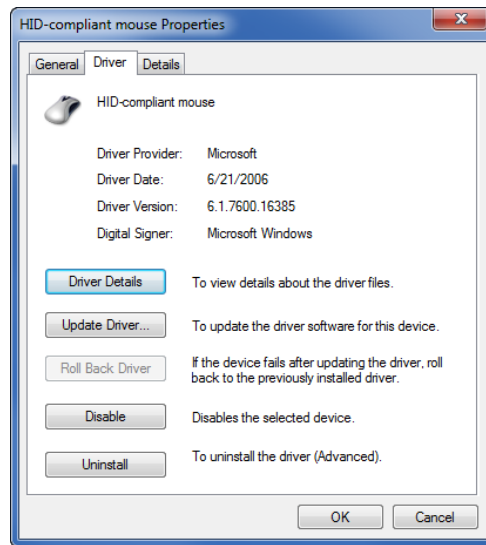

Figure 16. The HID-compliant Mouse Properties Dialog - Driver Tab
2. Click the **Driver** Tab (Figure 16).